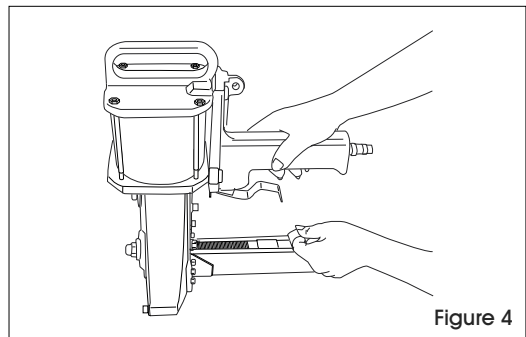

Figure 4
4. Pull pusher back to upright position and gently let the pusher slide forward against the staples. (See Figure 4)